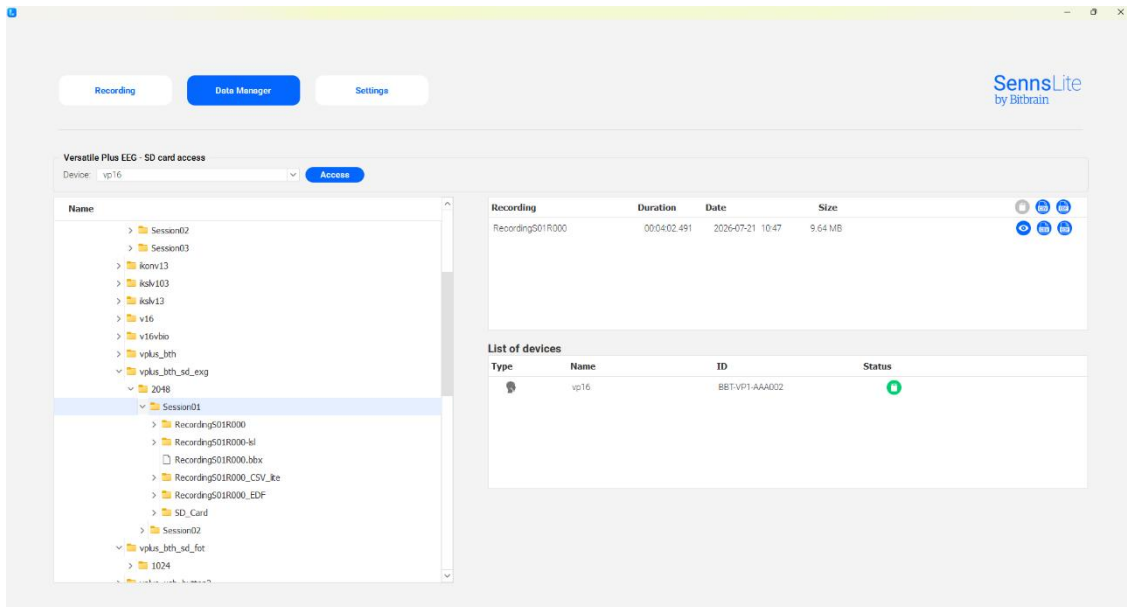
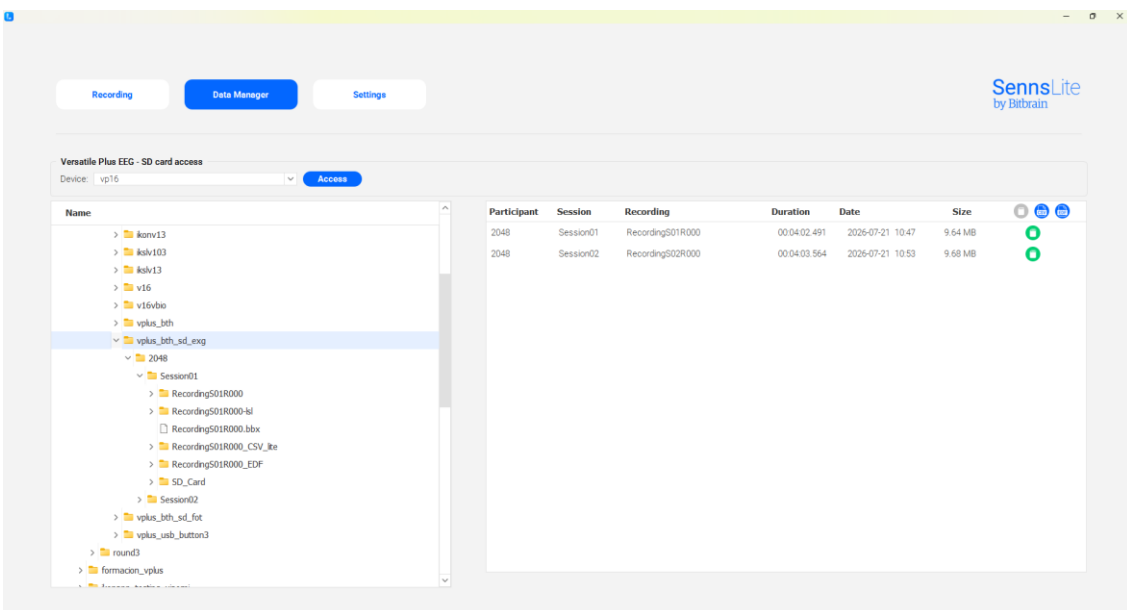

Figure 30. Session-Level Data Import Complete
Figure 31. Dataset-Level Data Import Complete
- After the SD card data is imported, by clicking on the “Import sdcard file” button, the icon will change to a **green SD card icon** (Figure 30), confirming that the signals from the corresponding device have been recorded correctly and the SD card has also been imported successfully.
- The **Import** button associated with the imported session or dataset will become disabled (displayed in **grey** instead of **blue**), to prevent duplicate imports, as seen in Figure 30 and Figure 31.